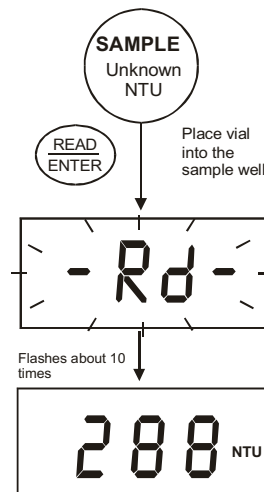

Figure 11: Reading turbidity value
5. After the power-up sequence, the display blinks [--Rd--] for about 12 seconds. See Figure 11.